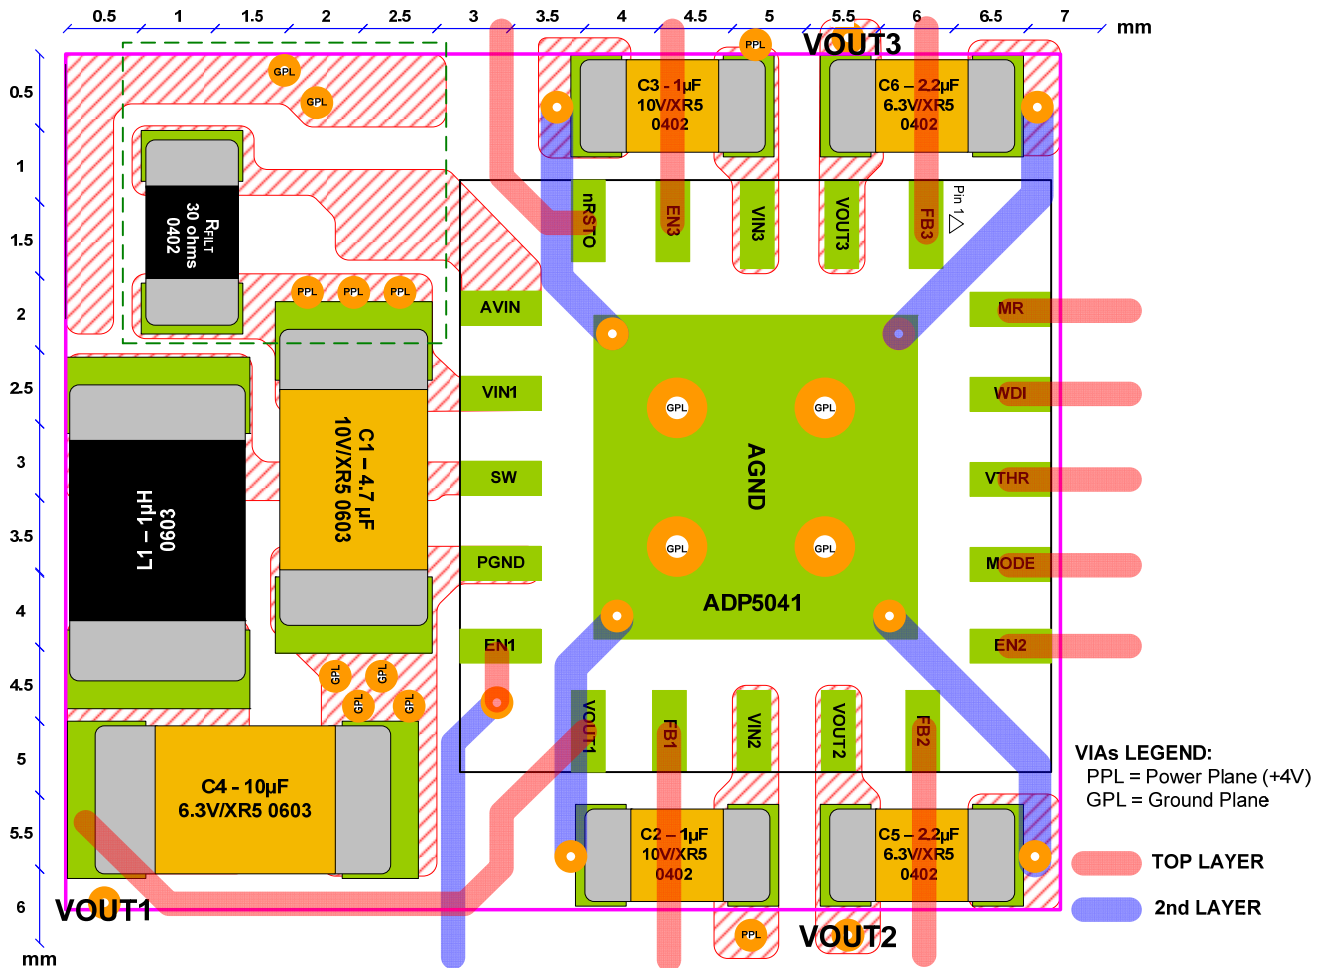

Figure 68. Suggested Board Layout
and layers. To remove heat from the device, it is important to maximize the use of copper. Copper exposed to air dissipates heat better than copper used in the inner layers. The thermal pad (TP) should be connected to the ground plane with several vias as shown in Figure 68.